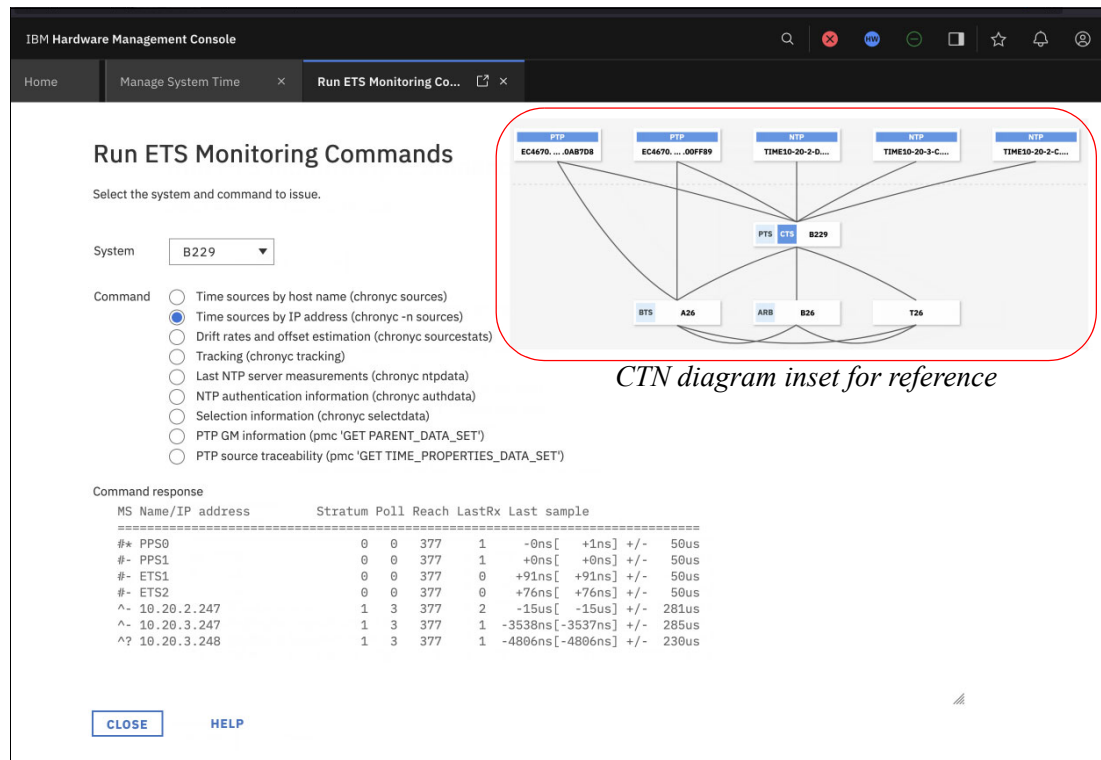

Figure 4-51 Time sources by IP address (CTN diagram inset for reference)
3. The results of selecting **Time sources by IP address** are shown in Figure 4-51.